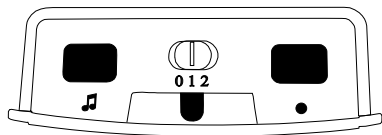

Figure 6: Receiver, upper side
Using the signal mode slide switch (in fig. 6 "0 1 2") you can select the signal mode. Kindly keep in mind that the symbols are always displayed with coloured light diodes.
- Keep the key »●« (fig. 6) pressed for some time. The symbols flash in sequence. Let go of the key as soon as you see the desired symbol.
- c) Press and hold the melody setting button »♪« (fig. 6) for two seconds. Let go of the button and press it repeatedly until you have found the desired melody (you can choose from 15 melodies).
- a) Keep the key »●« (fig. 6) pressed for some time. The symbols flash in sequence. Let go of the key as soon as you see the desired symbol.
- b) Now press key »●« and the melody setting button »♪« (fig. 6), until all symbols briefly flash at the same time.